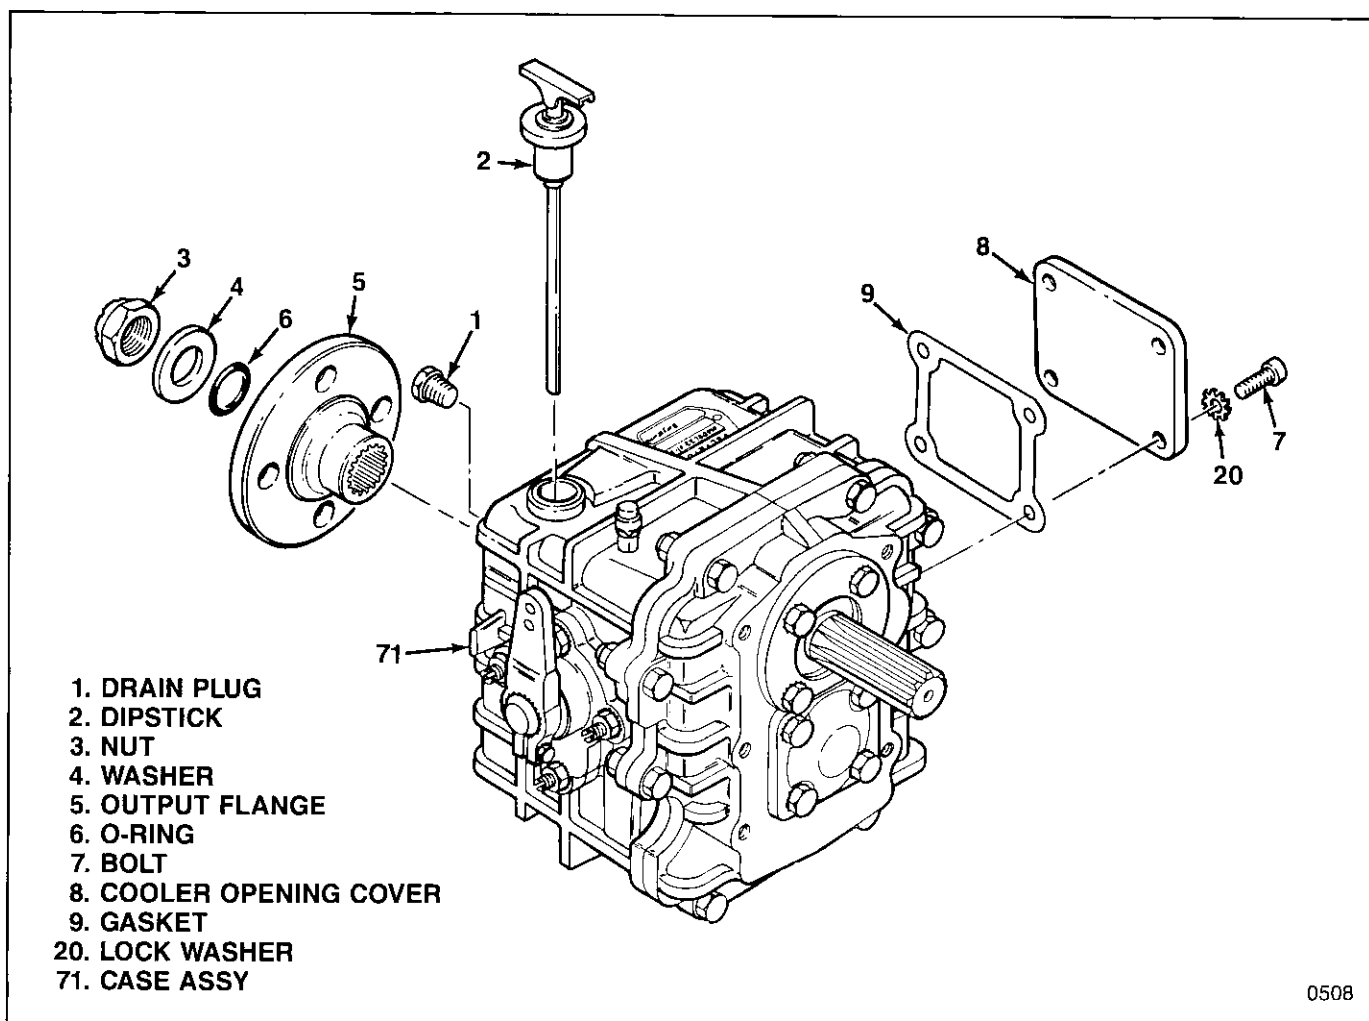

Figure 3-1. External Components
3-7. REMOVAL OF EXTERNAL COMPONENTS. Shift the transmission into neutral, then begin disassembly as follows (see figure 3-1):
1. Temporarily re-install output flange (5, figure 3-1) on output shaft (67) to hold shaft with coupling wrench T-504. Loosen lock nut (45) using socket wrench and socket T-505.
2. Remove lock nut (45), lock washer (46), bearing spacer (47) and bearing cup (48).
3. From each end of output shaft (67), remove the following:
a. One bearing cone (49). Use suitable puller behind reverse gear (52) and output gear (53) to unseat bearing cones from output shaft (67).
b. One thrust washer (50) and shims (51).
c. Reverse gear (52) and output gear (53) with attached parts (54 through 59). From each gear remove the following: